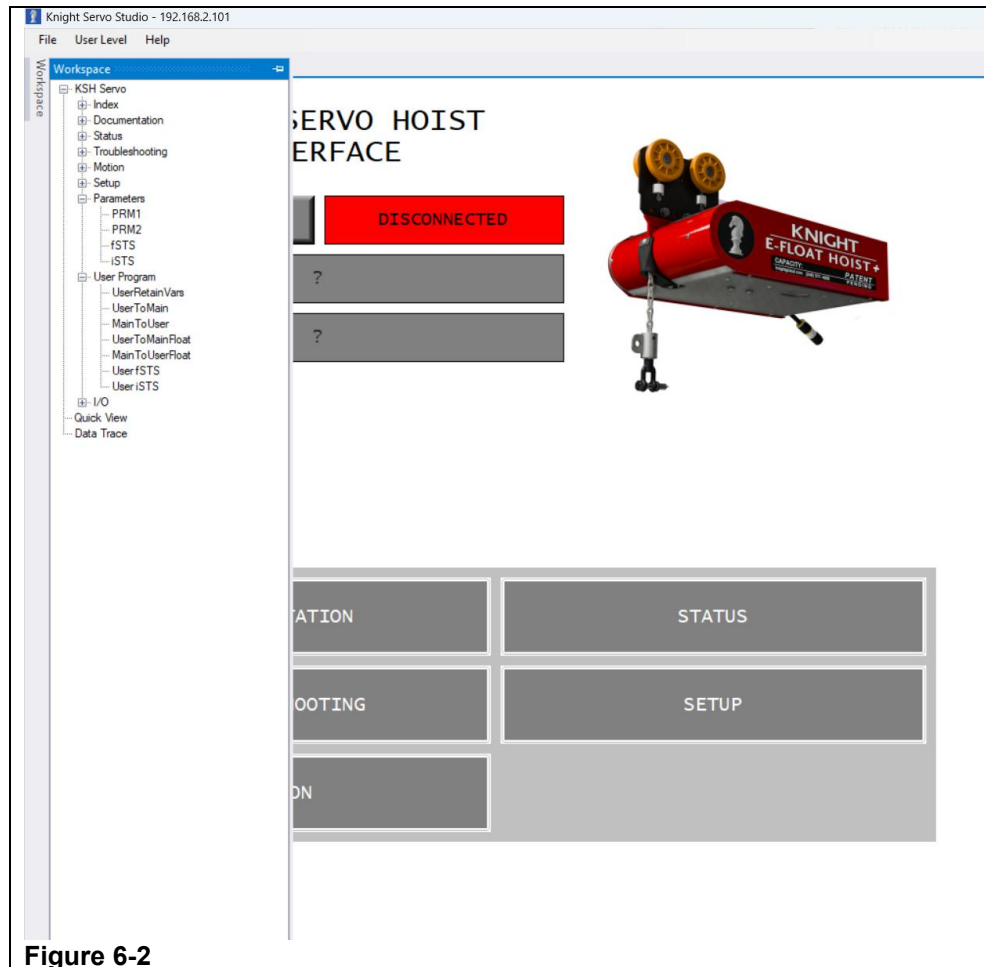

Figure 6-2
Step 2.) The Workspace tree will extend. (See Figure 6-2)